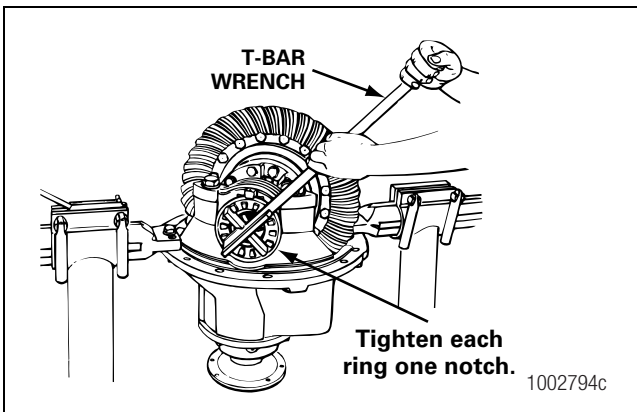

Figure 5.39
5. Tighten each bearing adjusting ring one notch from ZERO. The side bearings of the differential should have a preload of 15-35 lb-in (1.7-3.9 N•m). Figure 5.39.